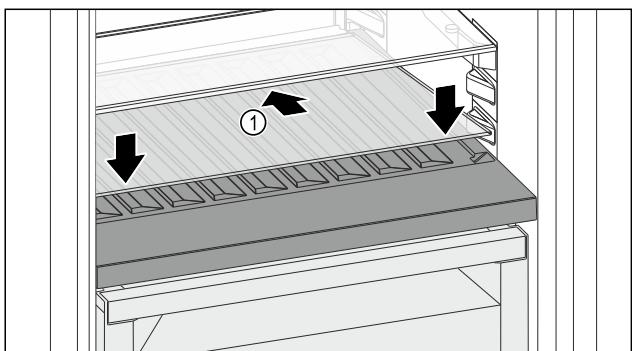

Fig. 86
- ▶ Place the glass shelf Fig. 86 (1) at an angle, sloping it downwards and backwards.
- ▶ Lower the glass shelf Fig. 86 (1) at the front.